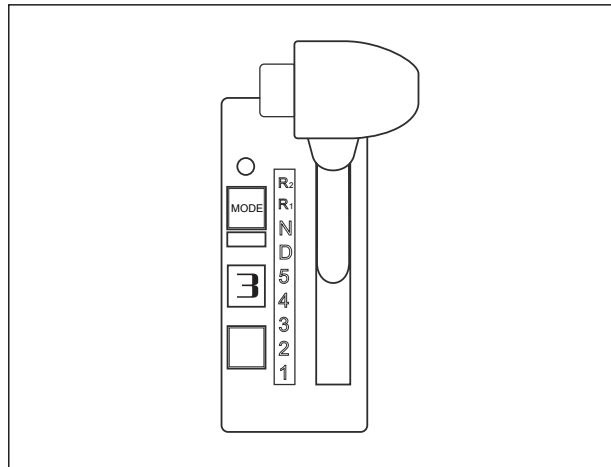

Fig. 4-22
3. Select the driving direction and the required range.(see Figure. 4-22)